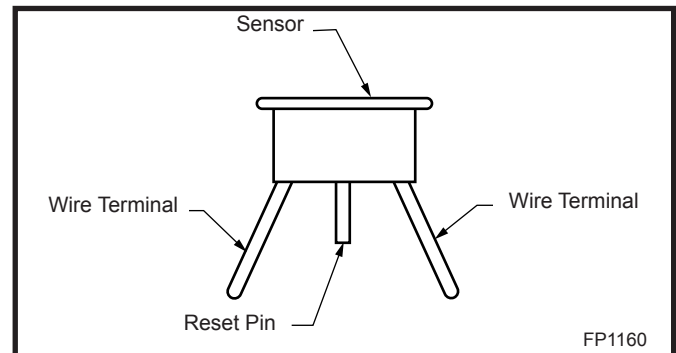

Fig. 18 Vent safety switch.
- Reset the sensor by pressing the reset pin between the two wire terminals. (Fig. 18)